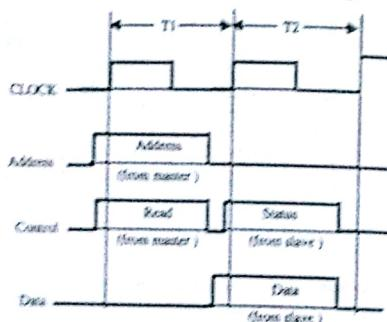

Fig. 4
- 1) As shown in figure 4, in the 1st clock period, (T1) CPU sends the address of the memory location to be read, in the address bus.